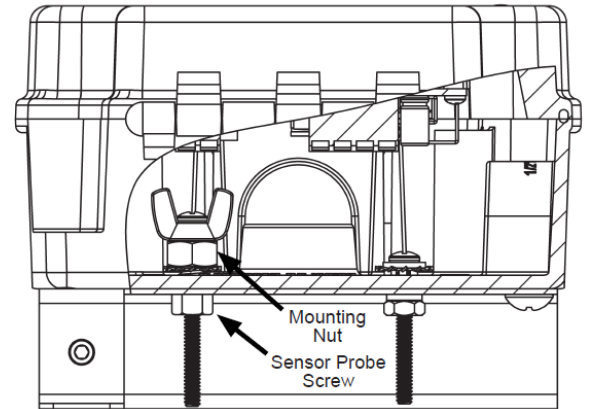

Figure 1: Leak Detector with Attached Sensor
3. Adjust the depth screw with the wing nut to set the alarm depth for detecting leaks as shown in Fig. 1.